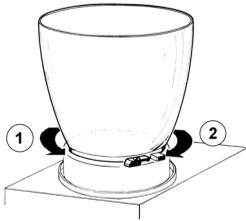

figure 2
counterclockwise (see figure 2).
2 Fit bowl gasket to the bowl around its seat. Place the bowl on the unit and then push it down all the way. Fix the bowl by rotating (2) it clockwise. Wet the gasket for ease of insertion (see figure 2).